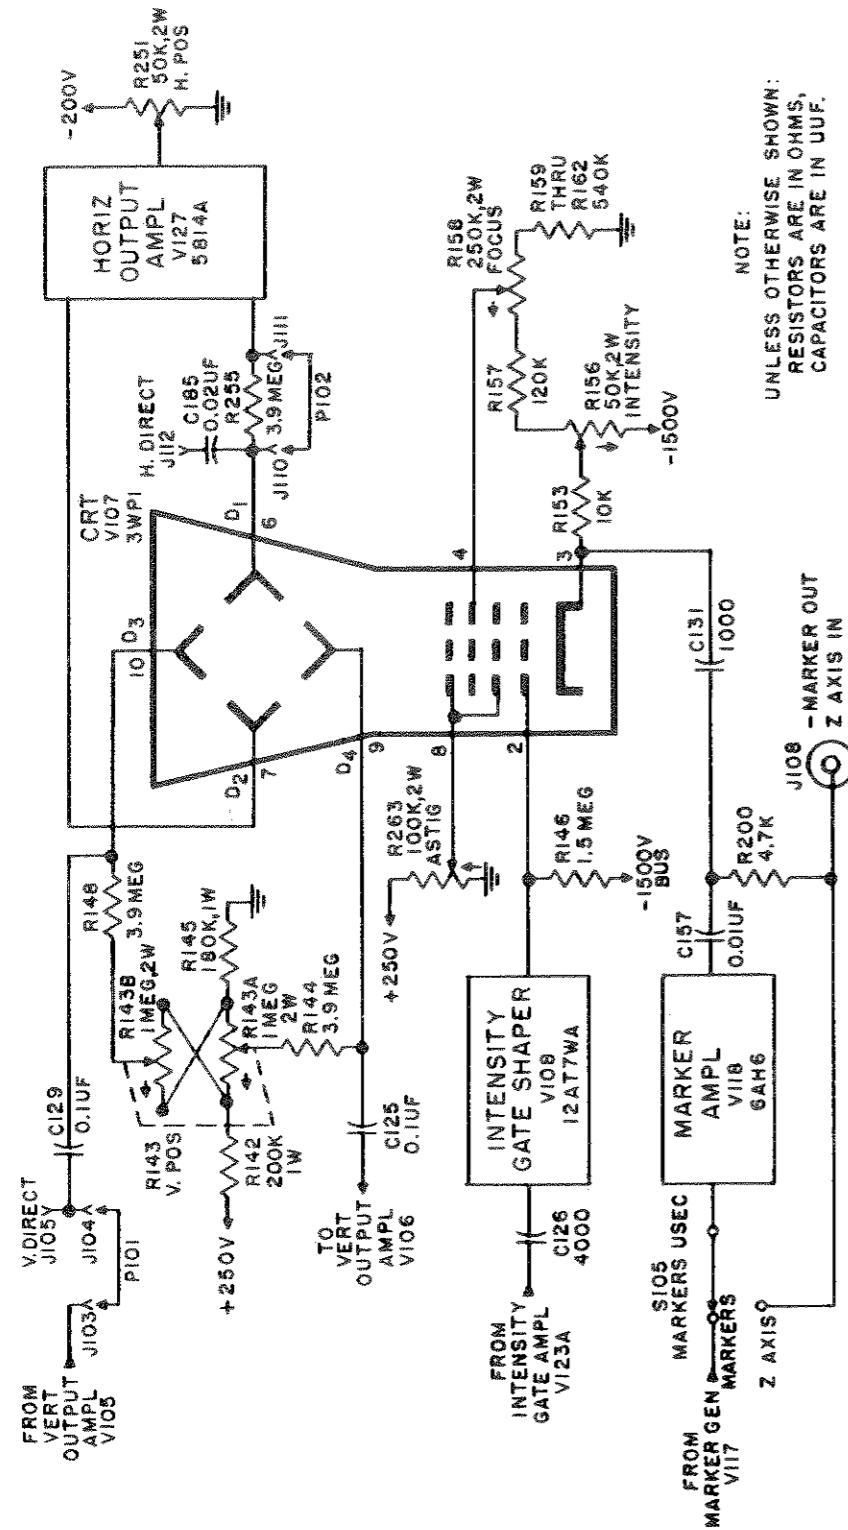

Figure 2-1. CRT Control Circuits, Simplified Schematic Diagram.
(6) V. DIRECT CONNECTION (See figure 2-1) – Facilities for making direct connection to the vertical deflection plates are located beneath a gasketed plate on the back of the oscilloscope case (See figure 3-3). Before making connection to V. DIRECT jack J105, the jumper plug P101 must be pulled out in order to disconnect the vertical amplifiers. This permits direct connection to the vertical deflection plates with an impedance of 5 megohms shunted by approximately 30 uuf. Only unbalanced to ground (not push-pull), ac signals can be applied to J105. Vertical positioning is still available when direct connections are made since the positioning circuit including V POS control R143 is independent of the vertical amplifier. Negative going signals cause upward deflection of the beam.
(7) CRT CONTROL CIRCUITS (See figure 2-1). These circuits consist of the crt type 3WP1 and associated controls for static adjustments. The horizontal deflection plates are dc coupled to the Horizontal Amplifier V127. The H POS control R251 varies the bias on the grid of V127B, pin 2, changing the voltage of the push-pull output while substantially maintaining the average dc potential. The vertical deflection plates are ac coupled to the push-pull Vertical Output Amplifiers V105, V106. Vertical positioning is achieved by means of the cross connected dual potentiometers V. POS which produces a difference of potential between the deflection plates while maintaining their average dc potential. The ASTIGMATISM control R263 adjusts for optimum spot size throughout the deflection area. It compensates for electrical field unbalances, due to mechanical misalignment in the deflection plate structures, by adjusting the dc potential of the second anode, pin 8, with respect to the average dc potential of deflection plates D1, D2 and D3, D4. The FOCUS control R158 adjusts the dc voltage on the first anode resulting in a change of focus of the trace without affecting the beam current. The inten-